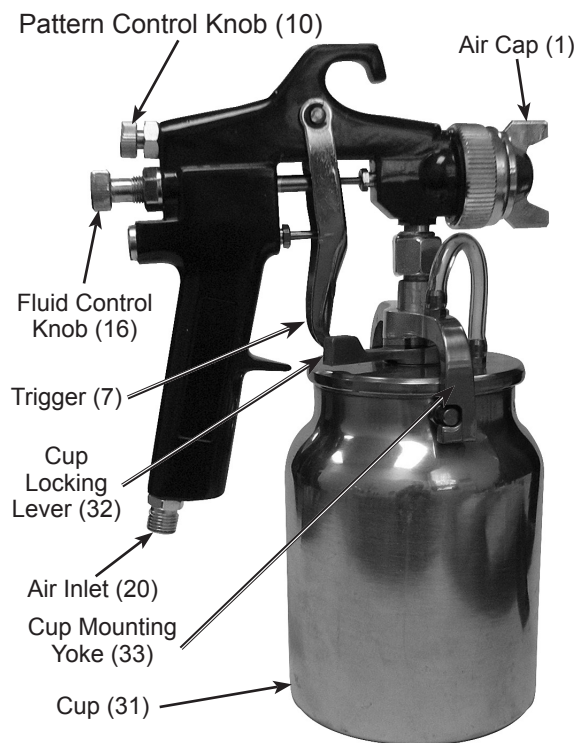

Fig. 1
2. To set the pattern size specific to the job, use the Pattern Control Knob (10) (**see FIG. 1**). By turning it counterclockwise (all the way open), the pattern will flatten. Turn the Pattern Control Knob (10) clockwise for a round pattern. (See **FIG. 4** below.)
1. Turn the Needle Adjusting Screw (16) clockwise until it is fully closed. (**See FIG. 1.**)